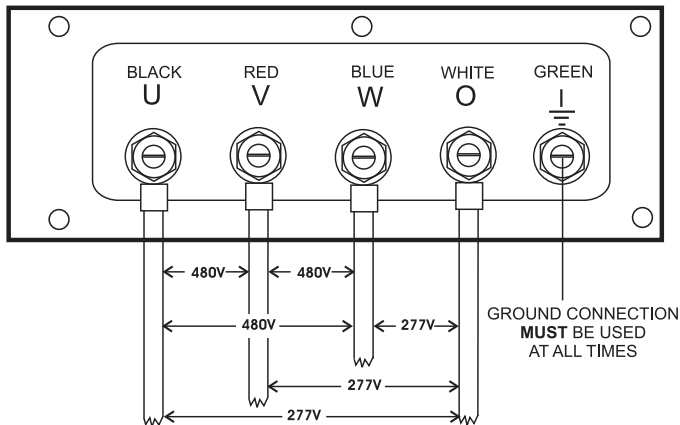

Figure 27. Output Terminal Lugs 277/480V Three Phase Connections
2. Connect the load wires to the **Output Terminal Lugs** as shown in Figure 27.